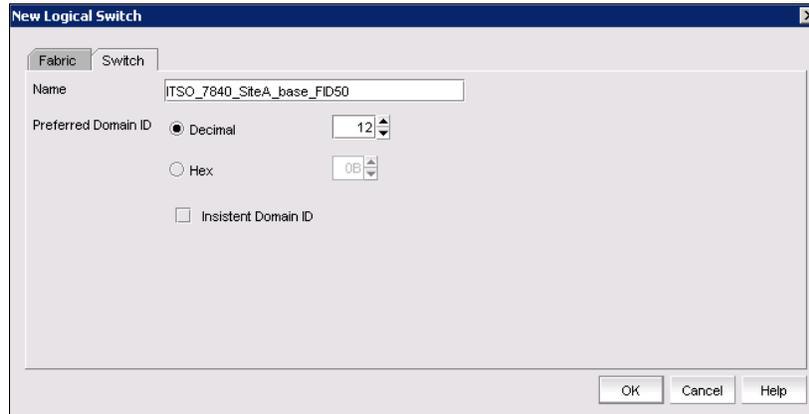

Figure 6-32 Assign domain ID for base logical switch
- Assign the switch name and domain ID to this logical switch (Figure 6-32). Here we use 12 for the domain ID of this logical switch.